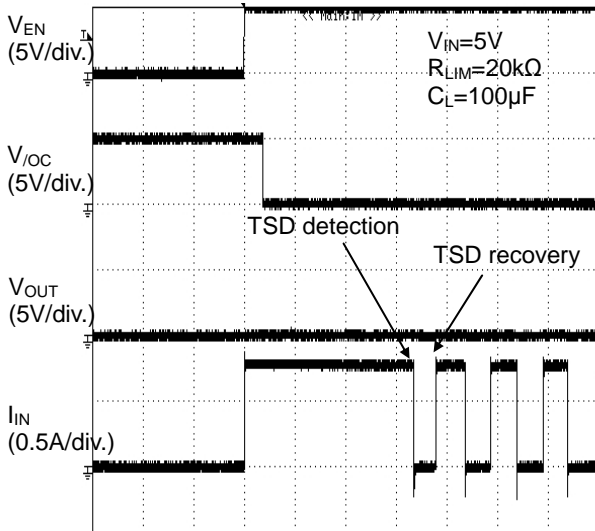

Figure 41. Over Current Response Enable Into Short Circuit (BD2244G-M)
(1) When the switch is turned on while the output is in short circuit status, the switch gets into current limit status immediately. (See figure 41.)